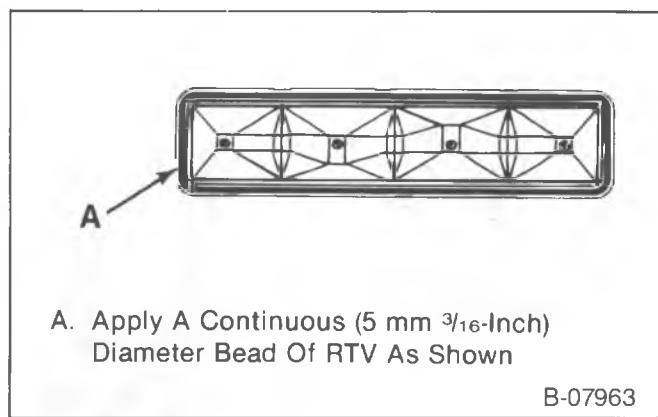

Figure 56—Applying RTV to the Pushrod Cover
- Studs (60) to 10.0 N·m (90 in. lbs.).
- 4. Pushrod cover (50).
- Apply a 5 mm ($\frac{3}{16}$ -inch) bead of RTV sealant to the pushrod cover as shown in figure 56.
- 6. Pushrods (47). Seat the pushrods into the sockets of the hydraulic lifters.
- Coat the mating surfaces of the rocker arms (33) and balls (32) with a molybdenum disulfide grease.
- 7. Rocker arms (33).
- 8. Balls (32).
- 9. Bolts (31).